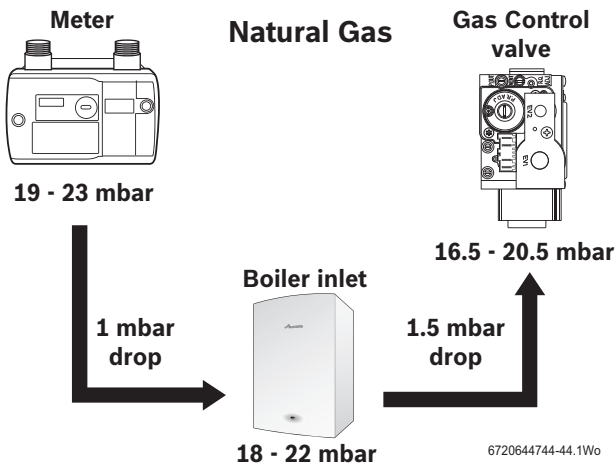
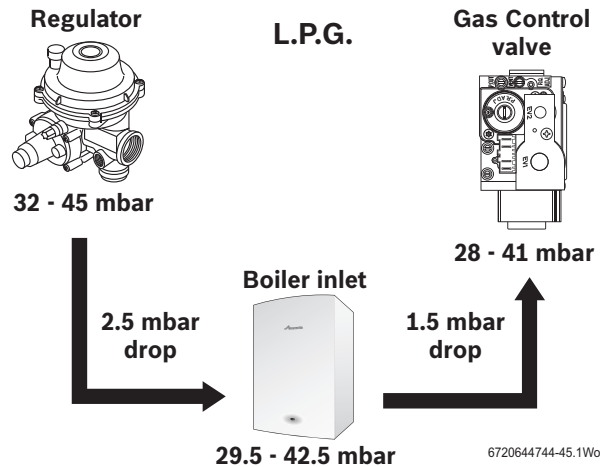

Fig. 41 Natural gas pressures
Fig. 42 L.P.G. pressures
- Press the Performance test button (J) for more than ten seconds and set Central Heating temperature to maximum.
- The Performance test button (J) will illuminate continually and the display (C) will alternate between $\bar{\bar{0}}$ and the central heating flow temperature.
- ▶ Check the gas supply working pressure at the gas valve conforms to values shown in Fig. 41 or Fig. 42.
If the pressure drops are greater than shown in figure 41, then this would indicate a problem with the pipe work or connections within the system.
If the pressure drops are greater than shown in figure 42, then this would indicate a problem with the pipe work or connections within the system.